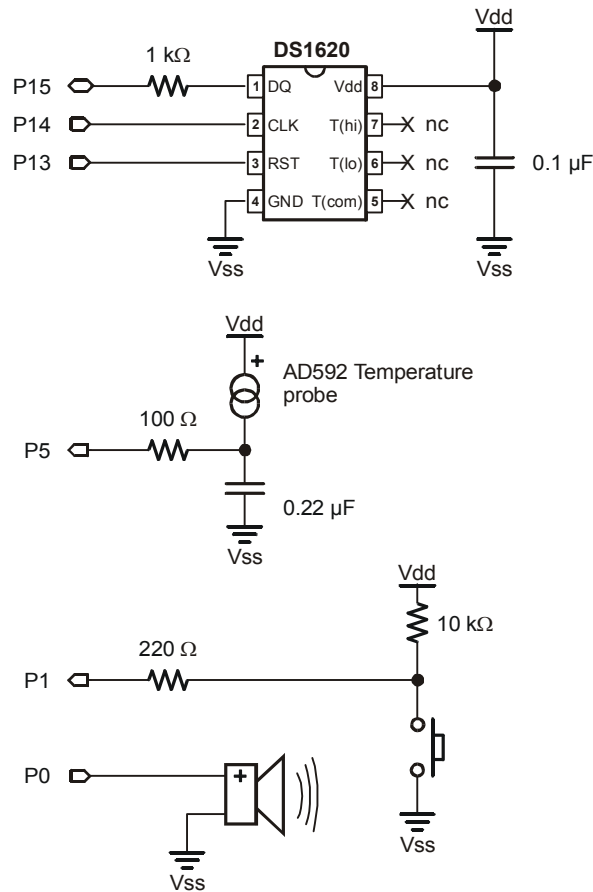

Figure 3-8
- ✓ Build the circuit shown by the schematic Figure 3-8 and the wiring diagram in Figure 3-9.